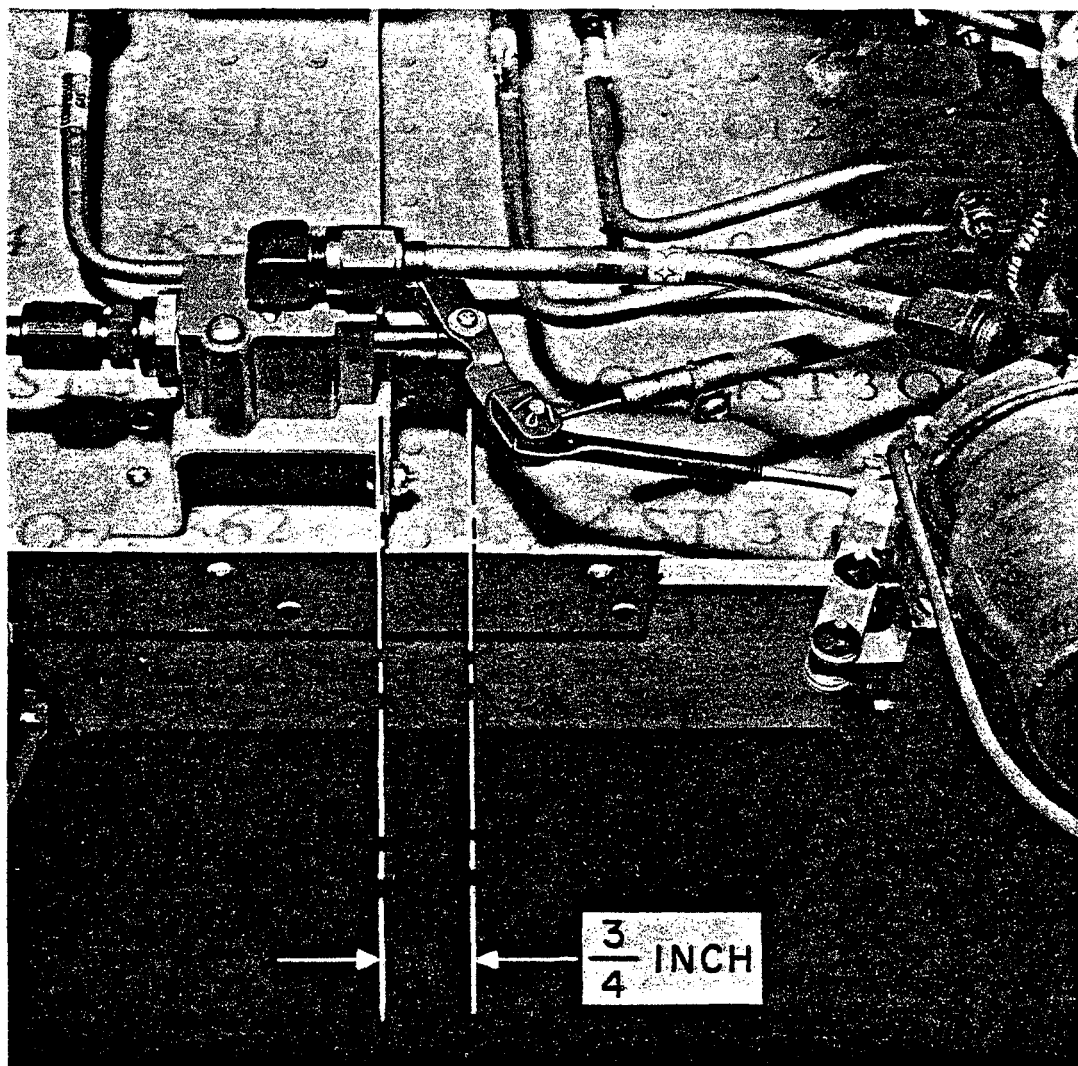

Figure 9-4. Checking Recommended Clearance Between Valve Arm and Valve in the "ON" Position
e. When either valve is open by virtue of the control being placed in the "ON" position, there must be no less than 3/4 inch between the valve-to-arm attaching rivet and the valve body to obtain complete freedom of travel. (Refer to Figure 9-4.)